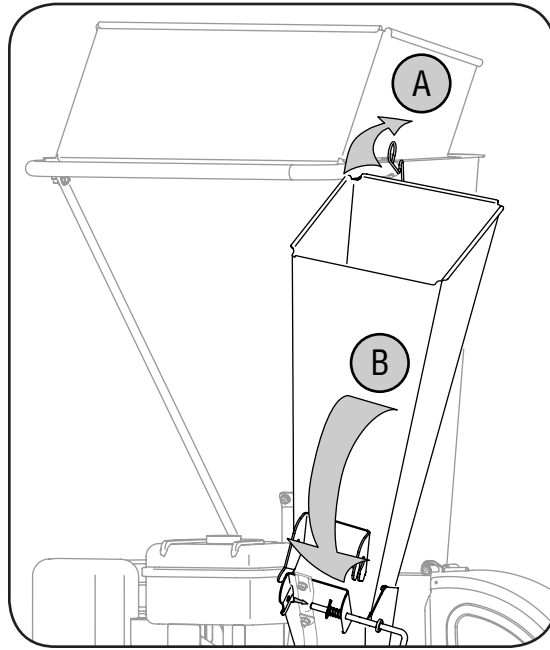

Figure 1
- Gently pivot the chipper chute down until it clicks into the lock rod. See Figure 1.